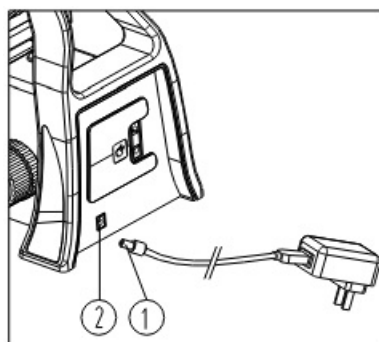

Fig. 5
2. Fully insert the connector① of power cord into the power socket②, and make sure it connects well (see Fig.5).